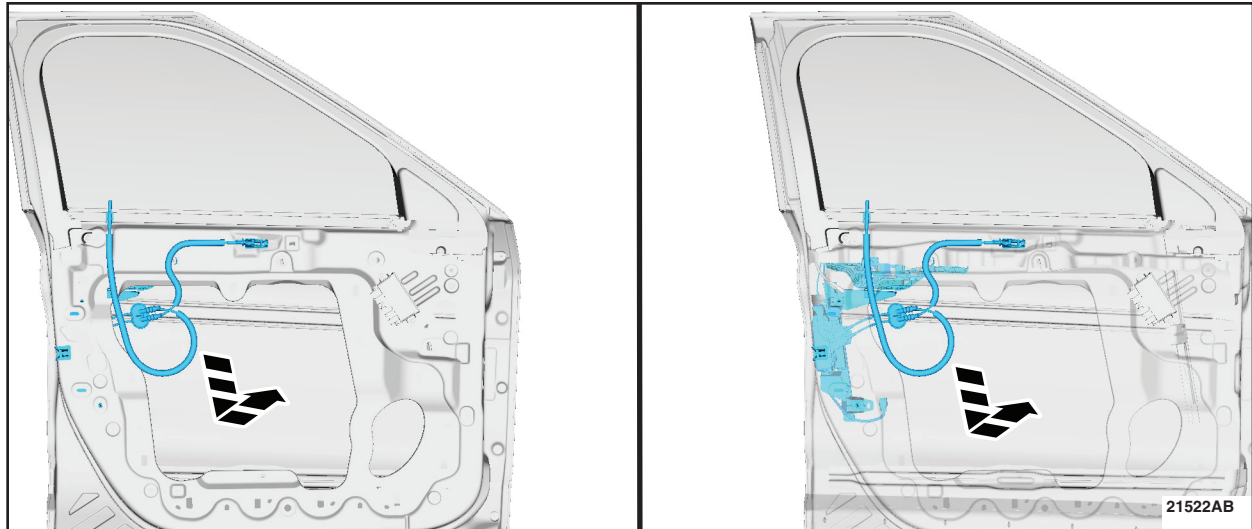

**FIGURE 36**
22. Remove the front door latch bolts. See Figure 36.